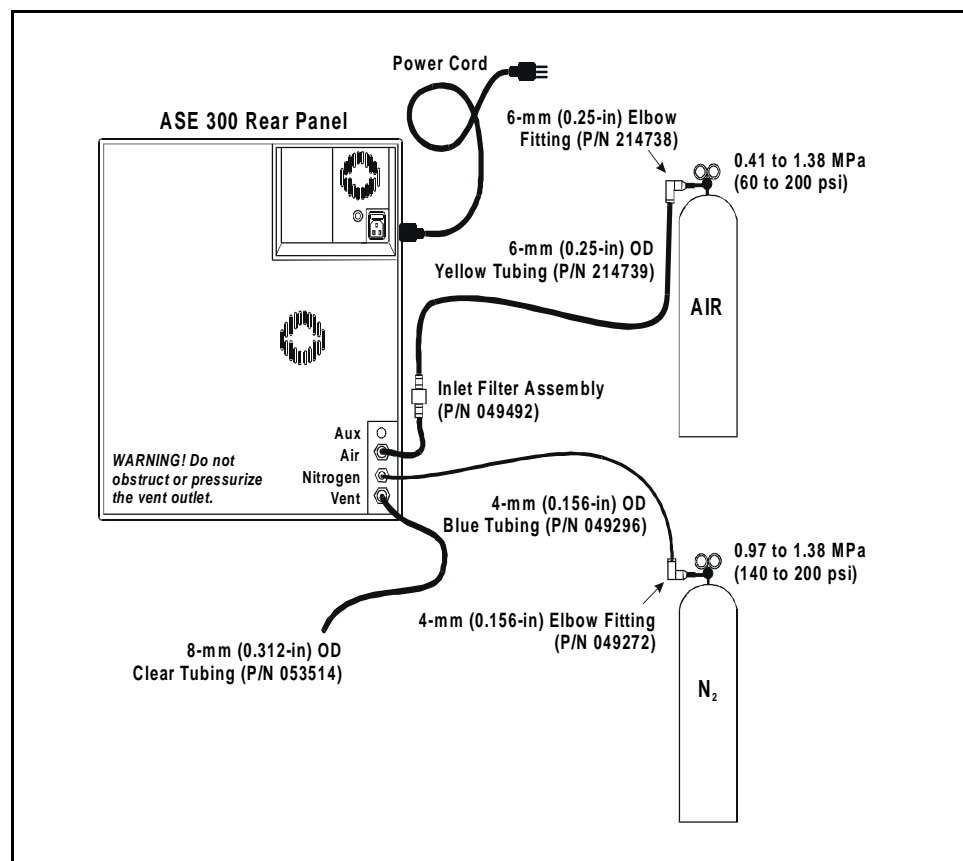

Figure B-1. ASE 300 Rear Panel Connections
2. Push one end of the yellow 6-mm (0.25-in) OD tubing (P/N 214739) into the elbow fitting; connect the inlet filter assembly (P/N 049492) to the other end of the tubing. Check that the arrow on the filter points in the direction of the air flow (toward the ASE 300). Push the tubing on the other end of the filter assembly into the **AIR** connector on the ASE 300 rear panel (see Figure B-1).